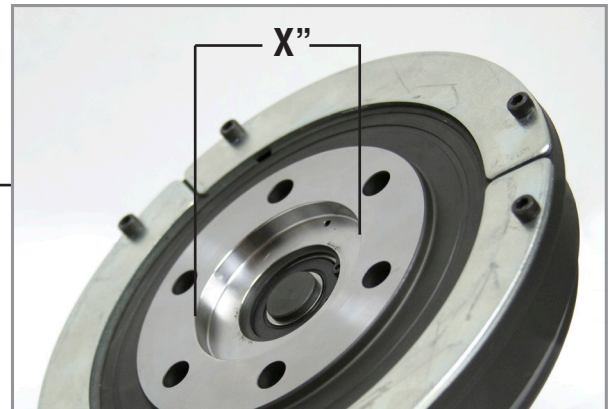
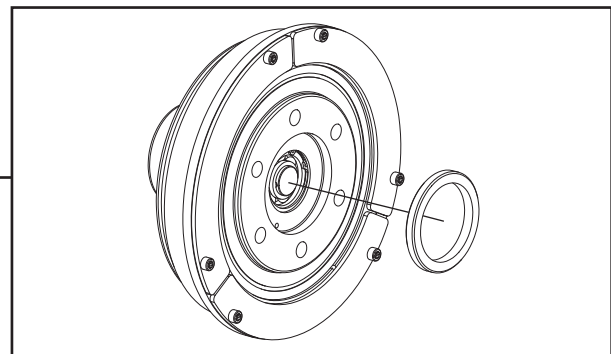

fig.1
fig.2
*Before installing the new 8001N fan clutch, determine the hub pilot size of the OLD fan clutch - this is the female pilot opening on the back side of the fan clutch (fig.1). It will either be 2" or 2.56". If the hub pilot is 2", you will need to install the hub pilot ring to the back of the fan clutch (fig.2) before mounting the fan clutch to the hub.*